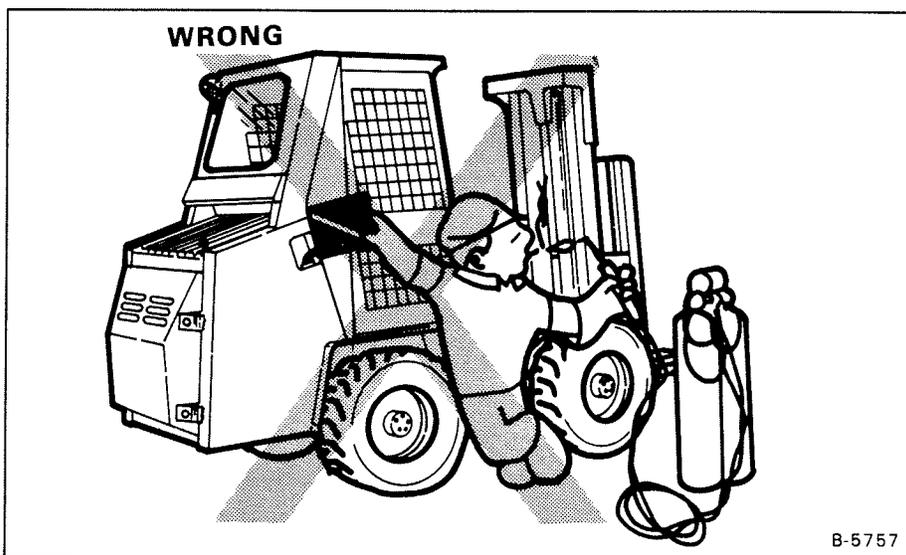
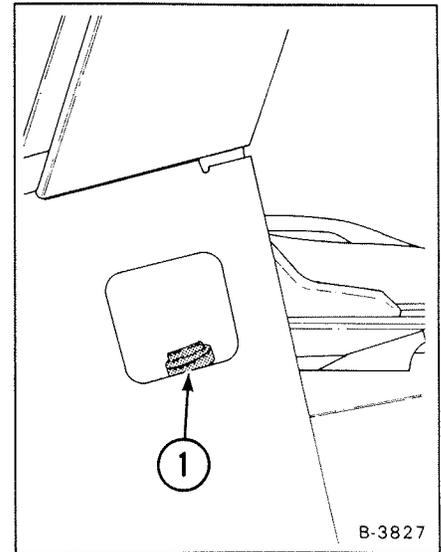

Fig. 1-12 Fuel Fill Warning
Fig. 1-13 Fuel Fill Location
(3) Install the outer filter element. DO NOT replace the inner filter element (Fig. 1-12, Item 3) unless the red ring still shows (after the engine is running) in the condition indicator window after replacing the outer element.
Remove the filler cap to service the fuel tank as follows (Fig. 1-13, Item 1):
- (2) The key switch must be in the "OFF" position and the engine cool.
- (3) Add fuel only in an area that has a free movement of air or no open flames or sparks. NO SMOKING (Fig. 1-12).
- (4) Use only clean fuel of the correct specifications (See Section 8 for specifications).
- (5) Tighten the cap on the fuel tank on the right side of the machine (Fig. 1-13, Item 1).